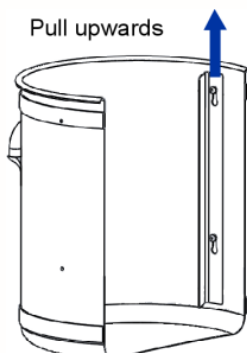

Fig. 4 RELEASE BLADES
- Remove the tank (1) from its support (3 & 4) in the Meat Tumbler.
- Remove the paddles located inside of the tank. Using one hand, hold firmly the tank and pull the paddle upwards in order to release it from pins. (See figure 4).